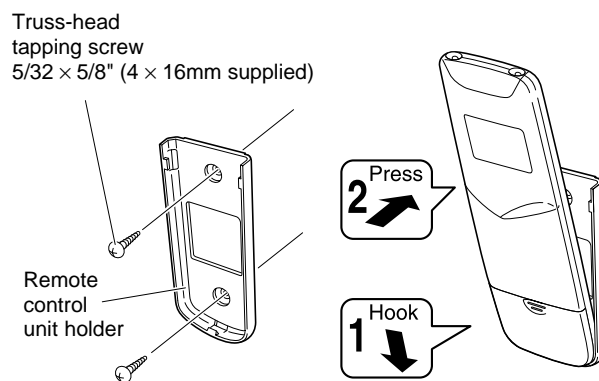

Fig. 56
- 1) Confirm the indoor unit beeps when the ON/OFF button is pressed at the wall location where the remote control unit is to be attached, then attach the holder to the wall. (Fig. 56)